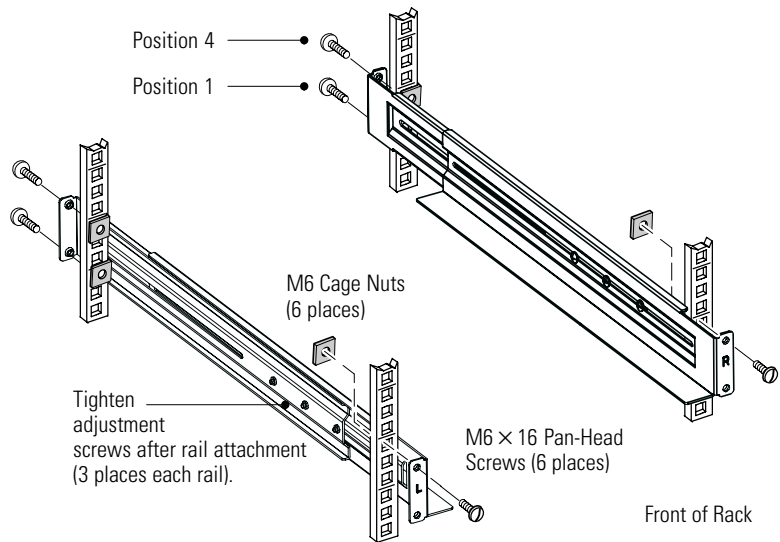

Figure 5. Securing the Rails
2. Select the proper holes in the rack for positioning the UPS in the rack (see Figure 5). The rails occupy four positions on the front and rear of the rack.